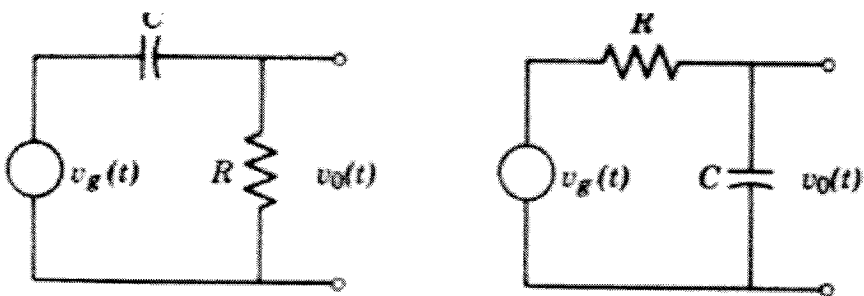

Figure7.
- (a) for the given circuits in figure 7. show that they represent an integrator and a differentiator.